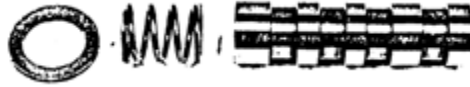

Figure 5-6. Load Control Bushing, Spring, and Gasket
- j. Lift out the load-control bushing, spring, and gasket (Figure 5-6).